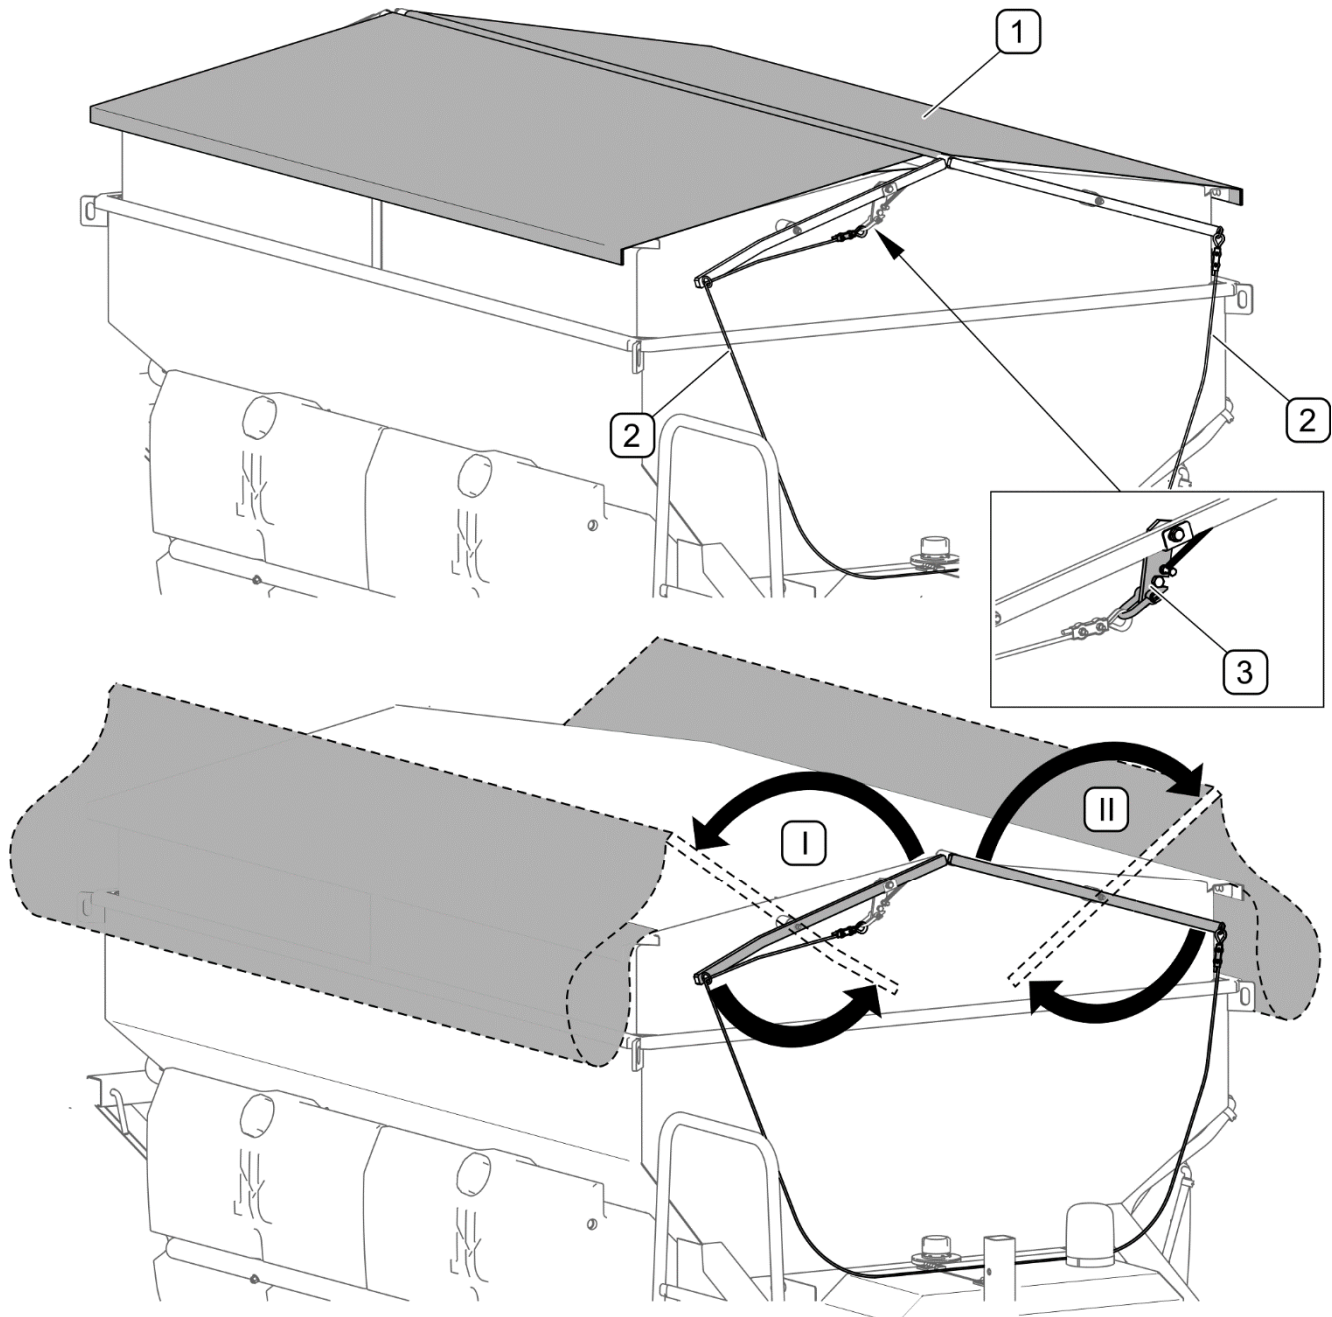

FIG. 4.16 Raising the tank's tarpaulin cover
- hold the ladder (1) and remove securing cotter pin (3),
- lower the ladder (1).
In proper rising sequence, raise two-part tarpaulin cover (FIG. 4.16) installed on the tank frame. Release catch (3) by pulling a cord and raise tarpaulin cover by means of frame lever. Tarpaulin cover rising sequence (I) - (II) is shown in (FIG. 4.16).
After loading, cover the tank with tarpaulin cover in the following sequence: (II) - (I) (FIG. 4.16). Check if pawl (3) is correctly locked.